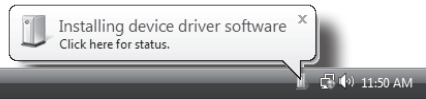

Figure 1
1. The first time you plug the Studio GT into a USB port, Windows 7 and Vista will install the universal drivers for that port. A balloon tip will pop up, telling you it has found the USB Audio codec (Figure 1).